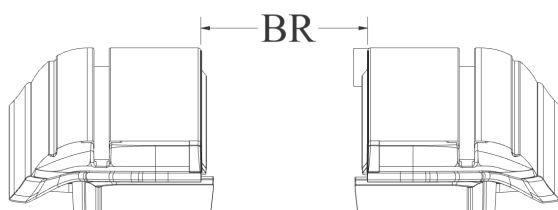

FIG. 9C
- Now tighten your clamp bolts with your Torque Wrench to 70 in-lb (5.9 ft-lb). Finally, check for proper spacing by measuring between the rails by attempting to insert the BR Gauge in between the rail metal and the handle stop (FIG 9E). You can also check the measurement between the rail at the canister and the tailgate end of the rails. The measurements should be equal to or less than those in Figure 9C. The Clamp Extensions have been pre-installed with brackets and shims to achieve the proper Between the Rail dimension (BR) when placed on an average factory truck bed. However, not all truck beds are average dimensionally and some have optional plastic caps or over the rail spray-in liners.